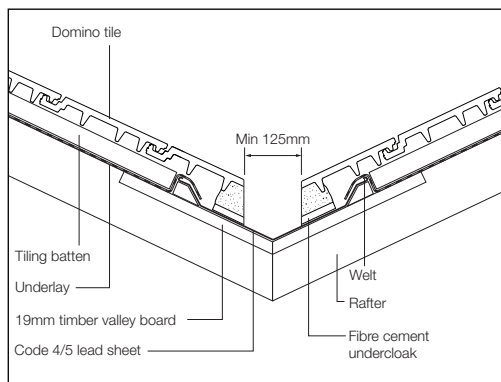

Fig 65 – Typical bedded valley
- 2 For mortar bedded valleys, bed raking cut tiles at the edges of the valley using mortar, ensuring that tile interlocks are kept free and there is adequate space kept clear behind the mortar to avoid water capillarity (Fig 65).